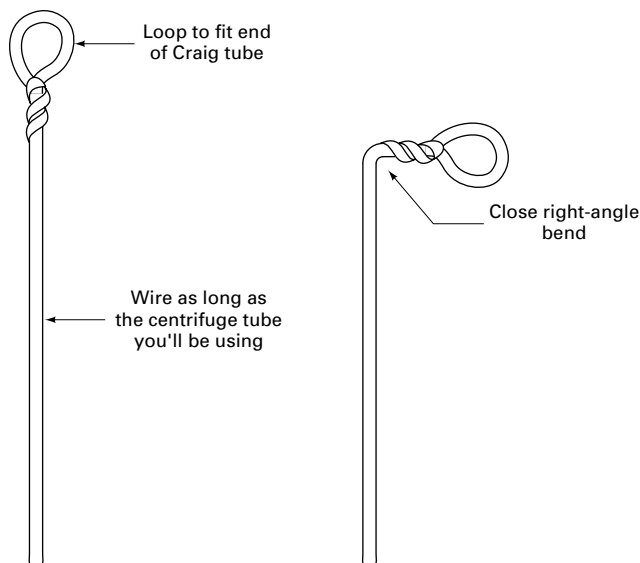

FIGURE 14.2 Preparing wire loop for Craig tube.
3. Get your centrifuge tube, and cut a length of copper wire as long as the tube. Make a loop in the end that’s big enough to slip over the end of the Craig tube stem (Fig. 14.2). Twist the wire so that the loop won’t open if you pull on it a bit.
4. Bend the loop so that it makes about a right angle from the wire (Fig. 14.2). Ready?